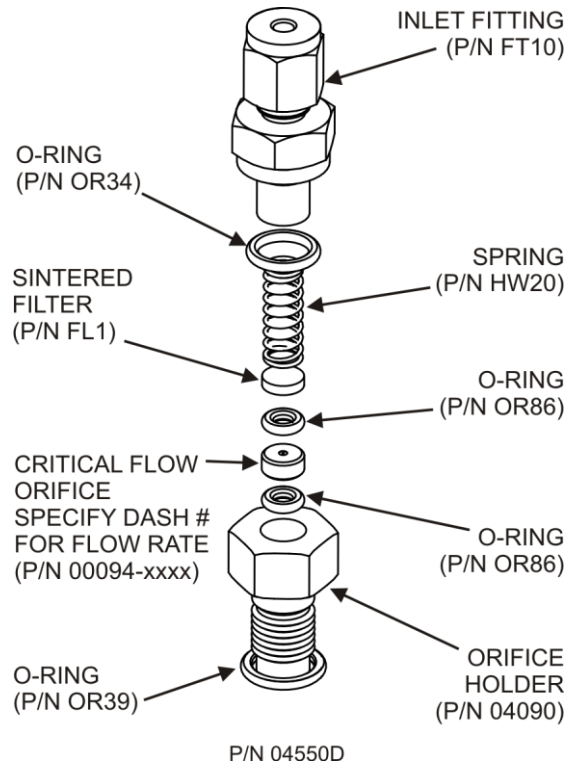

Figure 11-6: Critical Flow Orifice Assembly
- This part holds all components of the critical flow assembly as shown in Figure 11-6.
5. For orifices in the vacuum manifold: the assembly is similar to the one shown in Figure 11-6, except:
9. Reassemble the parts as shown in Figure 11-6.